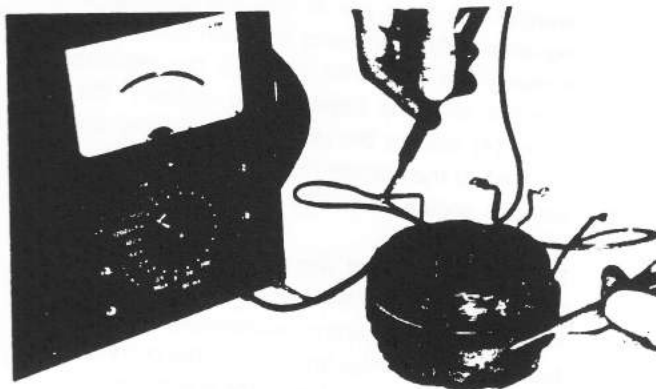

Fig. 7 Inspecting the Starter Coil
- b. To inspect the insulation, connect the tester's leads between the starter coil lead and the core. If a current flows, it means poor insulation, so correct the fault or replace. (See Fig. 7).